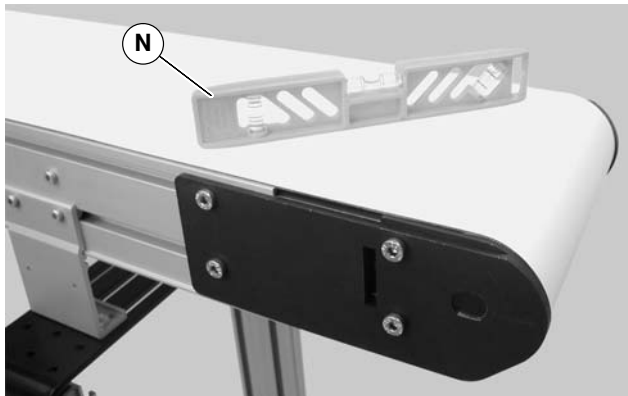

Figure 3
**NOTE:** Conveyor **MUST** be mounted straight, flat and level within confines of conveyor. Use a level (N of Figure 3) for setup.